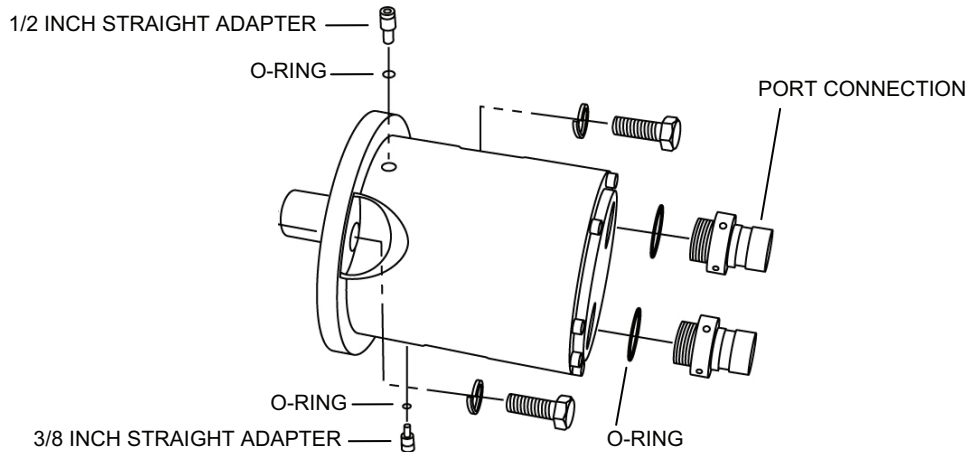

Figure 20. Pump Straight Adapters and Port Connections.
- a. Remove and retain the two straight adapters on the pump casing (see Figure 20). Remove and discard the O-rings on the adapters.
- b. Remove and retain the two port connections on the pump port flange (see Figure 20). Remove and discard the O-rings on the connections.